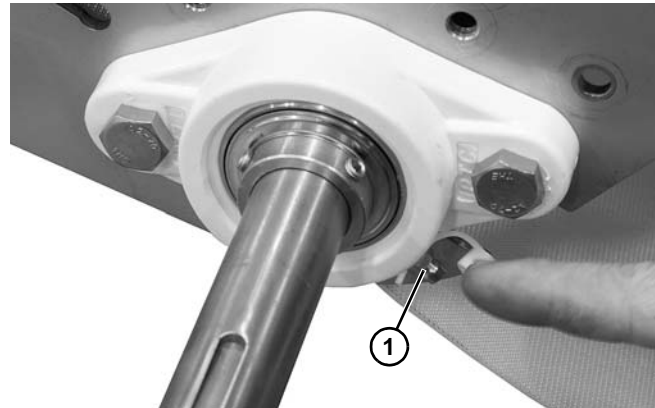

Figure 112
When replacing the bearing housing, make sure that the grease fitting (**Figure 112, item 1**) is facing down.